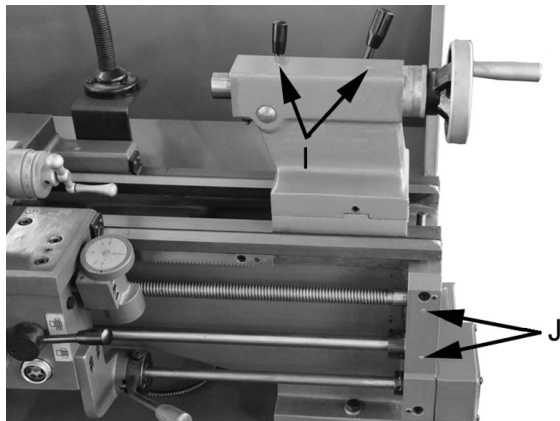

Figure 6-5
10. **Tailstock** – Lubricate ball oilers (I, Figure 6-5) once daily with Mobil DTE® Oil Heavy Medium.
11. **Leadscrew/Feed Rod** – Lubricate ball oilers once daily (J, Figure 6-5) with Mobil DTE® Oil Heavy Medium.